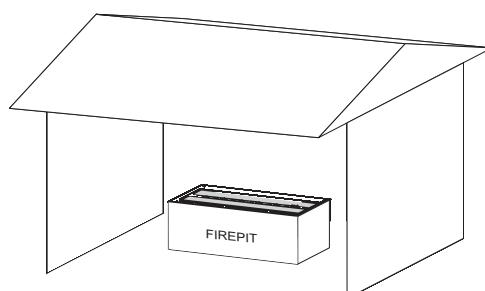

**Figure 6**
- With walls on back and one side, but with no overhead cover. See **Figures 6**.
**NOTICE:** For installations with a rear wall and side wall, refer to Figures 6 and 9.